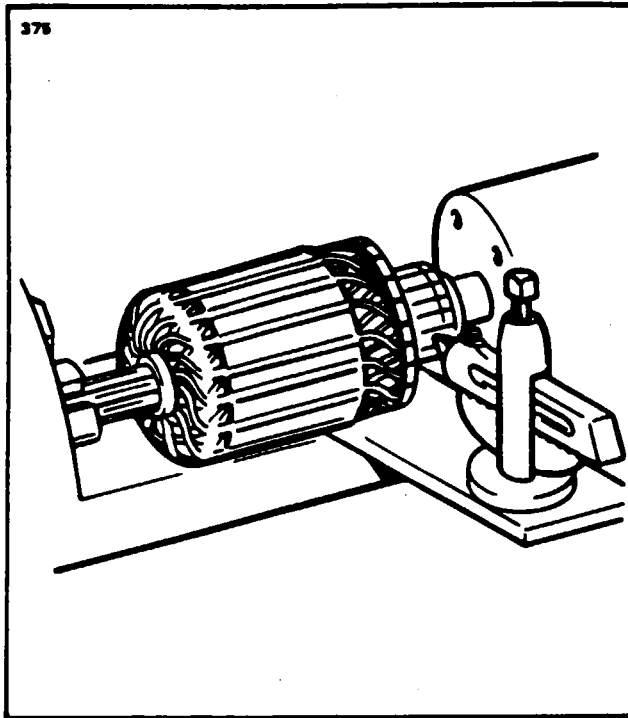

Figure 80-2. Turning Starting Motor Commutator
1. Check the commutator for uneven wear, excessive glazing or evidence of excessive arching. If only slightly dirty, glazed or discolored, the commutator can be cleaned with 00 or 000 sandpaper. If the commutator is rough or worn, it should be turned in a lathe. (Refer to Figure 80-2.) The armature shaft should be inspected for rough bearing surfaces and rough or damaged splines.